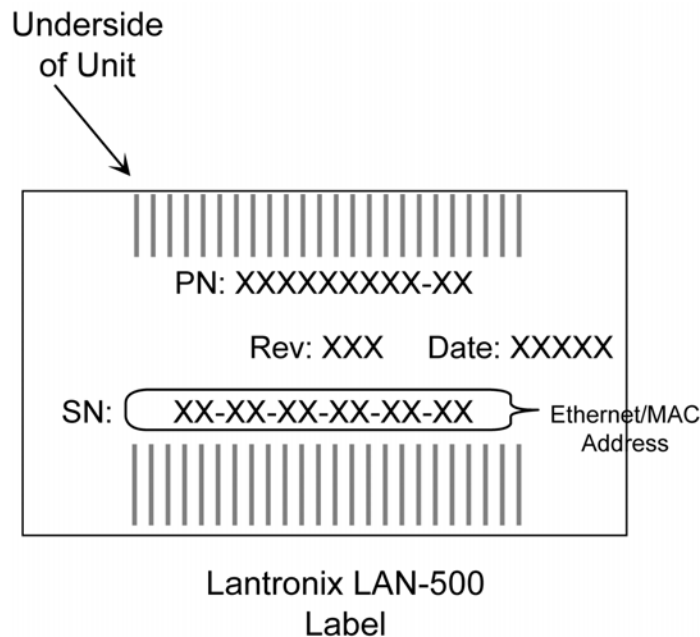

Figure 3: Locating the Ethernet/MAC Address
1. Get the Ethernet/MAC address of the LAN-505. On the LAN-505, the Ethernet/MAC address is found on the label placed on the underside of the unit (see Figure 3).